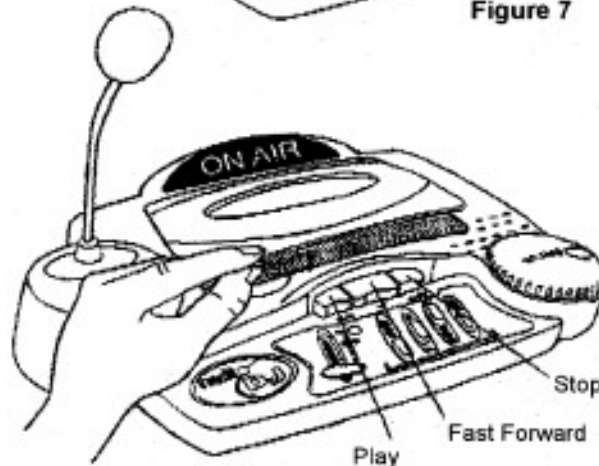

Figure 8
3. Close tape door. (Figure 8)